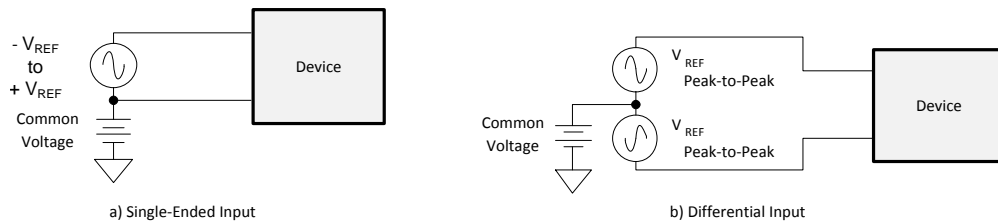
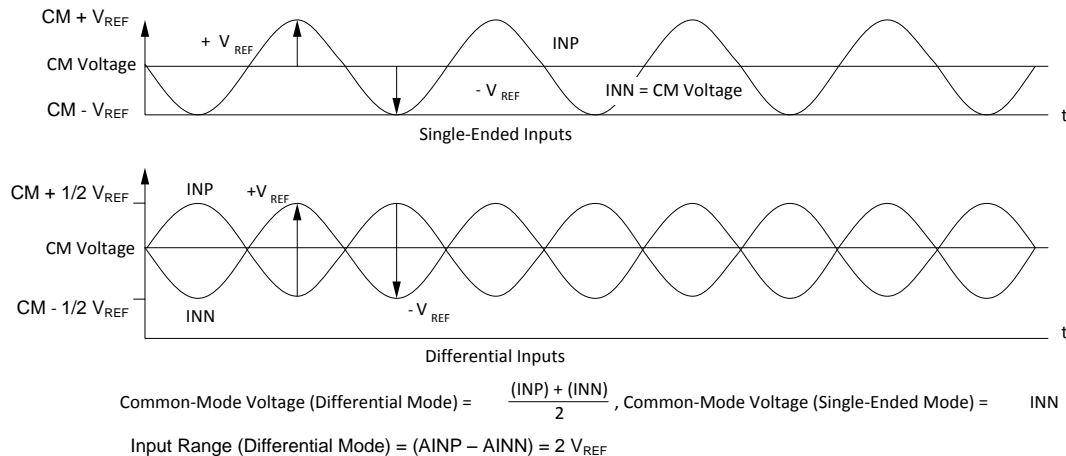

Figure 49. Methods of Driving the ADS1298: Single-Ended or Differential
Figure 50. Using the ADS1298 in the Single-Ended and Differential Input Modes
The analog input to the ADS129x is fully differential. Assuming $PGA = 1$, the differential input ($INP - INN$) can span between $-V_{REF}$ to $+V_{REF}$. Note that the absolute range for INP and INN must be between $AVSS - 0.3V$ and $AVDD + 0.3V$. Refer to Table 13 for an explanation of the correlation between the analog input and the digital codes. There are two general methods of driving the analog input of the ADS129x: single-ended or differential, as shown in Figure 49 and Figure 50. Note that INP and INN are 180° out-of-phase in the differential input method. When the input is single-ended, the INN input is held at the common-mode voltage (CM), preferably at mid-supply. The INP input swings around the same common-mode voltage and the peak-to-peak amplitude swings from $CM - V_{REF}$ to $CM + V_{REF}$. When the input is differential, the common-mode is given by $(INP + INN)/2$. Both the INP and INN inputs swing from $CM + 1/2 V_{REF}$ to $CM - 1/2 V_{REF}$. For optimal performance, it is recommended that the ADS129x devices be used in a differential configuration.